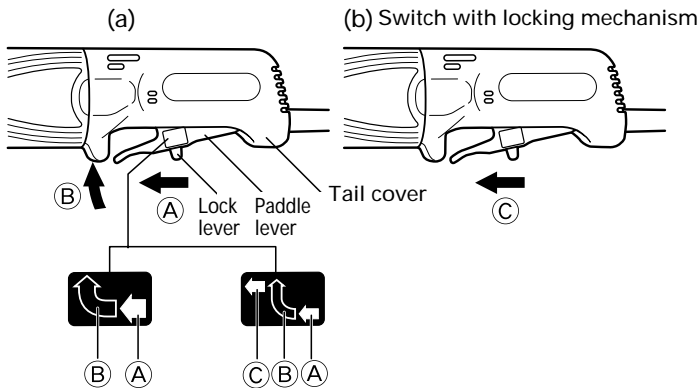

Fig. 3
Switch On: To switch on, slide the lock lever in the direction of (A) and press the paddle lever in the direction of (B) as shown in Fig. 3-a.
Furthermore, slide the lock lever in the direction of (C) shown in Fig.3-b while pressing the paddle lever to lock and enable continuous operation.
Switch OFF: To release the locking mode, press the paddle lever in the direction of (B) shown in Fig.3-a, and release the paddle lever to switch off.